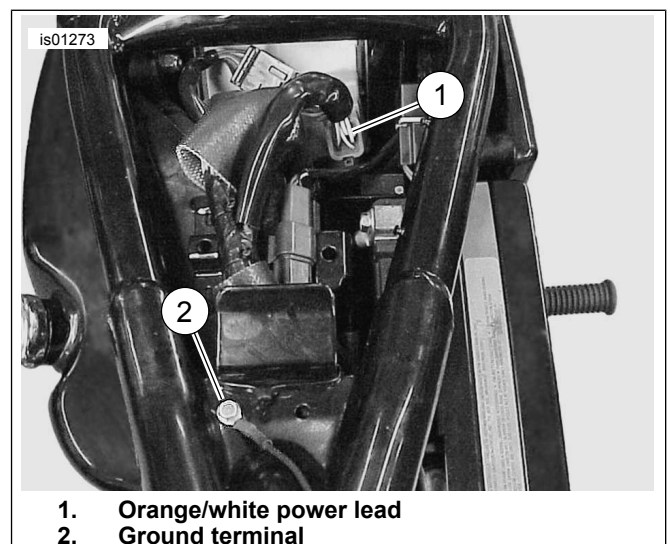

Figure 10. XL Wire Harness and Ground Location
1. Route the orange/white power lead underneath and down a rear frame rail to the power location for the year and model. *2004-later Softails:* The fuse block under the seat behind the battery will be fitted with an adapter to the fuse socket labeled P&A IGN to provide a main harness power lead. *2000-2003 Softails:* Locate the orange/white power lead in the tail lamp harness pin connector (7A) under the seat behind the right rear corner of the battery. *2004-later Dyna:* The fuse block inside the left side cover will be fitted with an adapter to the fuse socket labeled OPEN to provide a main harness power lead. *1999-2003 Dyna:* Locate the orange/white power lead in the tail lamp harness pin connector (7A) under the seat. *2004-later FLHR:* The fuse block will be fitted with an adapter to the fuse socket labeled P&A IGN to provide a main harness orange/white power lead. *1999-2003 FLHR:* A main harness orange/white power lead inside the right side cover near the top. *2004-later XL:* Behind the left side cover, locate the orange/white power lead from the main harness to the diagnostic pin connector (91A). *2000-2003 XL:* See Figure 10. A main harness orange/white power lead (1) inside the side cover or under the seat to power the gauge.